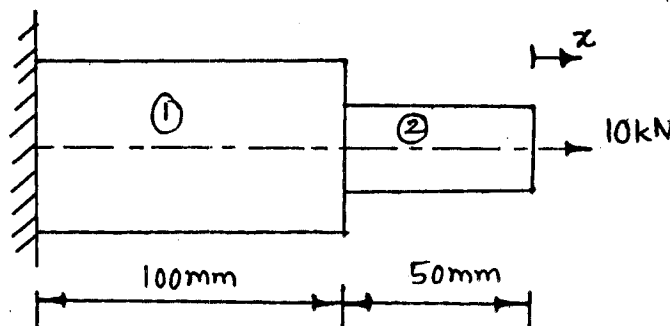

Fig.Q3(b)
- b. A stepped bar shown in Fig.Q3(b). Determine the nodal displacements and the support reaction. Take $E_1 = E_2 = 2 \times 10^5 \text{ MPa}$; $A_1 = 100\text{mm}^2$; $A_2 = 5\text{mm}^2$. (10 Marks)